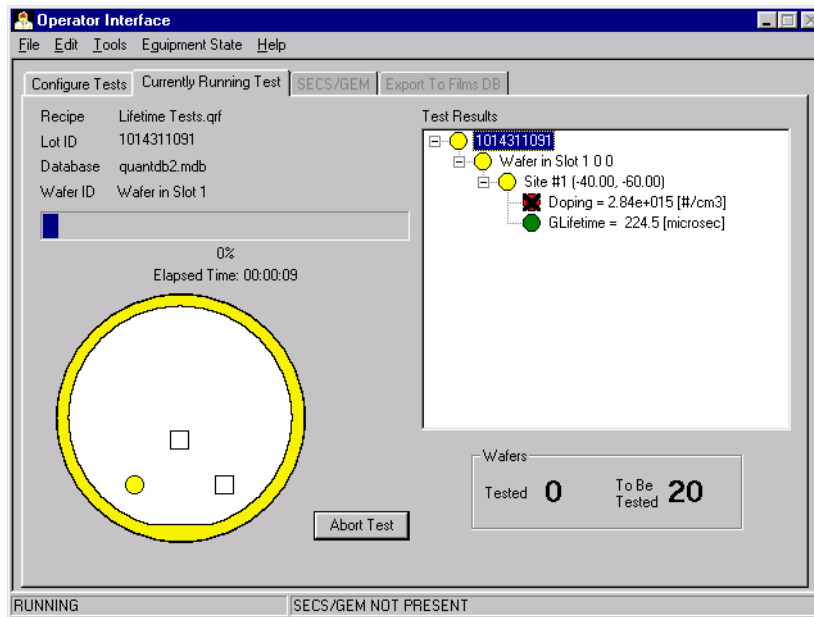

Figure 4-7: Currently Running Test Tab (site-based test)
- To start the test, click the Start Test button. The screen displays the Currently Running Test tab (Figure 4-7).
The Currently Running Test tab (Figure 4-7) reports the test status and results as the test proceeds, enabling the operator to monitor the test in progress. If needed, click the Abort Test button to stop the test.